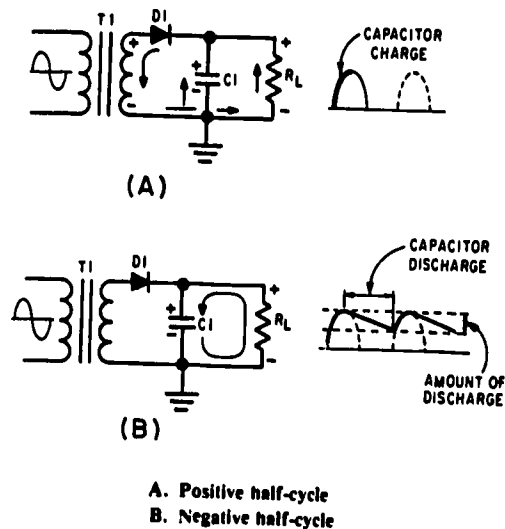

Fig 4-17. Capacitor filter circuit (positive and negative half cycles).
Now, let's consider a complete cycle of operation using a half-wave rectifier, a capacitive filter (C1), and a load resistor (R_L). As shown in view (A) of figure 4-17, the capacitive filter (C1) is assumed to be large enough to ensure a small reactance to the pulsating rectified current. The resistance of R_L is assumed to be much greater than the reactance of C1 at the input frequency. When the circuit is energized, the diode conducts on the positive half cycle and current flows through the circuit, allowing C1 to charge. C1 will charge to approximately the peak value of the input voltage. (The charge is less than the peak value because of the voltage drop across the diode (D1)). In view (A) of the figure, the charge on C1 is indicated by the heavy solid line on the wave form. As illustrated in view (B), the diode cannot conduct on the negative half cycle because the anode of D1 is negative in respect to the cathode. During this interval, C1 discharges through the load resistor (R_L). The discharge of C1 produces the downward slope as indicated by the solid line on the wave form in view (B). In contrast to the abrupt fall of the applied a.c. voltage from peak value to zero, the voltage across C1 (and thus across R_L) during the discharge period gradually decreases until the time of the next half cycle of rectifier operation. Keep in mind that for good filtering, the filter capacitor should charge up as fast as possible and discharge as little as possible.